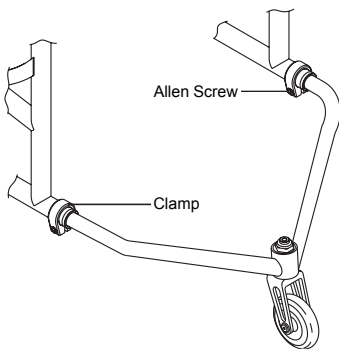

Figure 130
1. Loosen the Allen Screws on each clamp. See Figure 130.